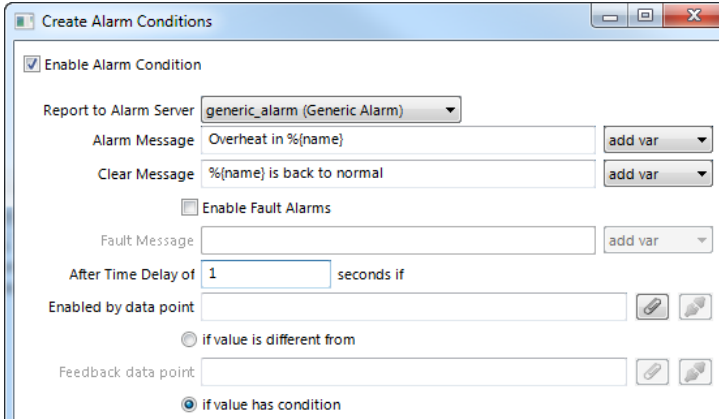

Figure 222: Common settings for an alarm condition.
3. For the alarm condition edit the following definitions, which apply to all condition types as shown in Figure 222. Select the **Alarm Server** which the alarm shall be reported to. Typically, you will choose a generic alarm server.